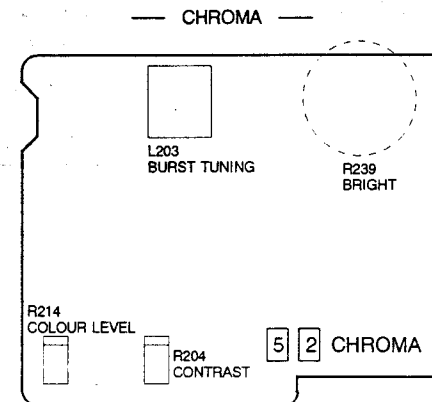

Fig. 3-2-2 Adjustment element location for CHROMA board
2) Adjust R204 so that white level of the portion "A" (see Fig. 3-2-2) of a waveform becomes 2.4 V DC.